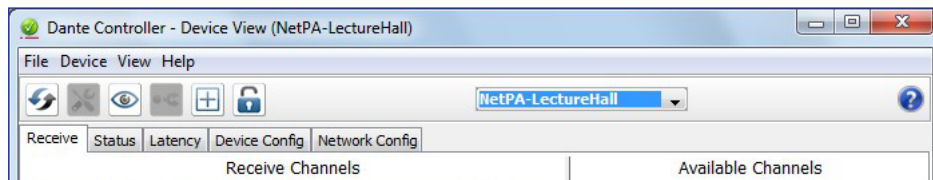

Figure 13. Device View Dialog Box
- The Device View dialog box populates with the selected NetPA AT information (see figure 13).